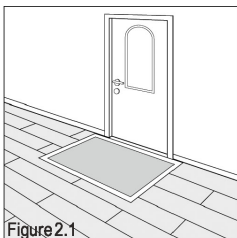

Figure 2.1
- Use floor mats at all entrances to help keep dirt and moisture from being tracked in (Figure 2.1). Area rugs are recommended in high traffic areas and at sinks. Mats and area rugs should be slip resistant with backing that will not discolor the floor. Clean rugs periodically to remove dirt and grit.